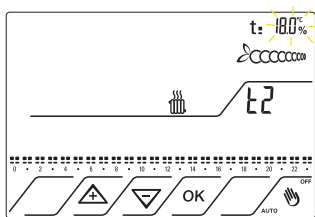

Fig. 29
7.7 Then the display shows the second level value: T2. The relative set temperature 18°C flashes. Fig.29